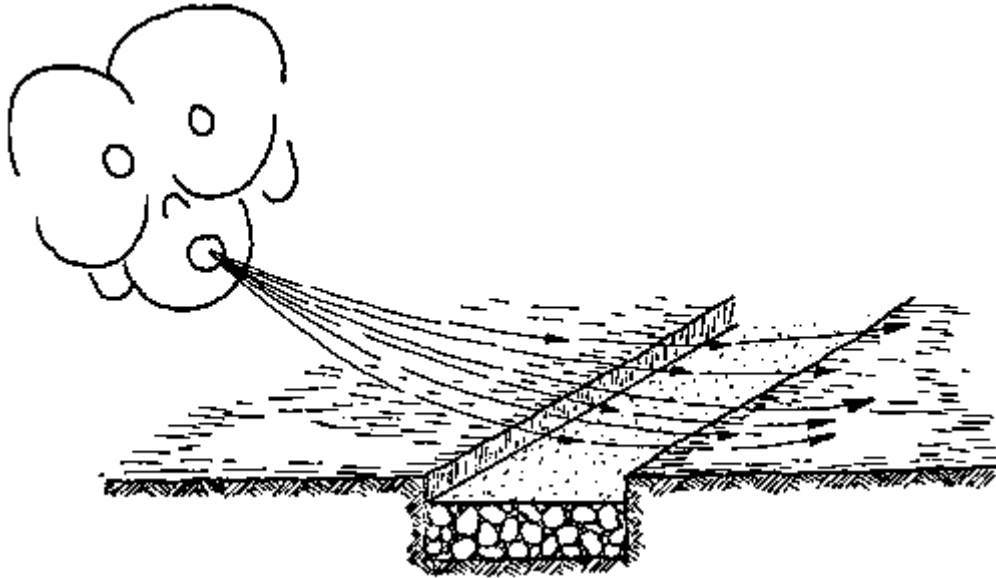

Fig. 4
- The wind, which can dry up the surface, resulting in cracks due to excessive dryness and shrinkage: especially during the harmattan season (Fig. 4).